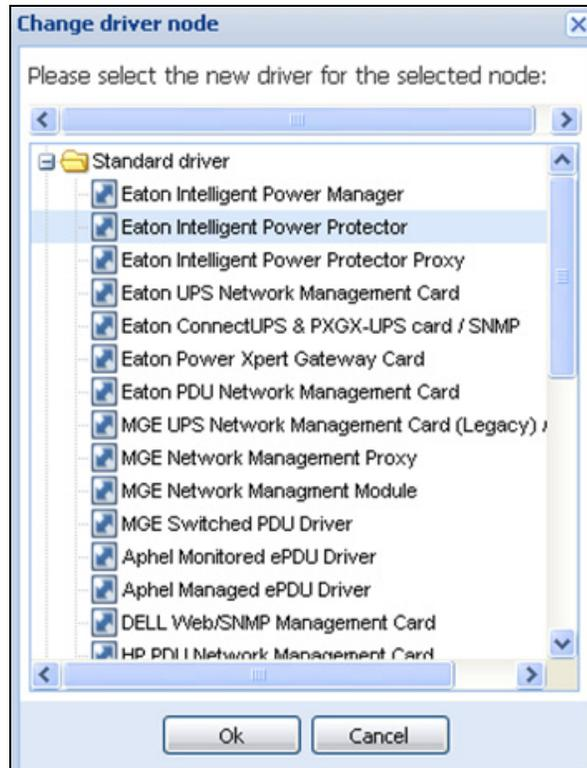

Figure 13. Change Driver Mode Dialog Box
2. From the right-side panel, select **Change driver node** (see Figure 13).